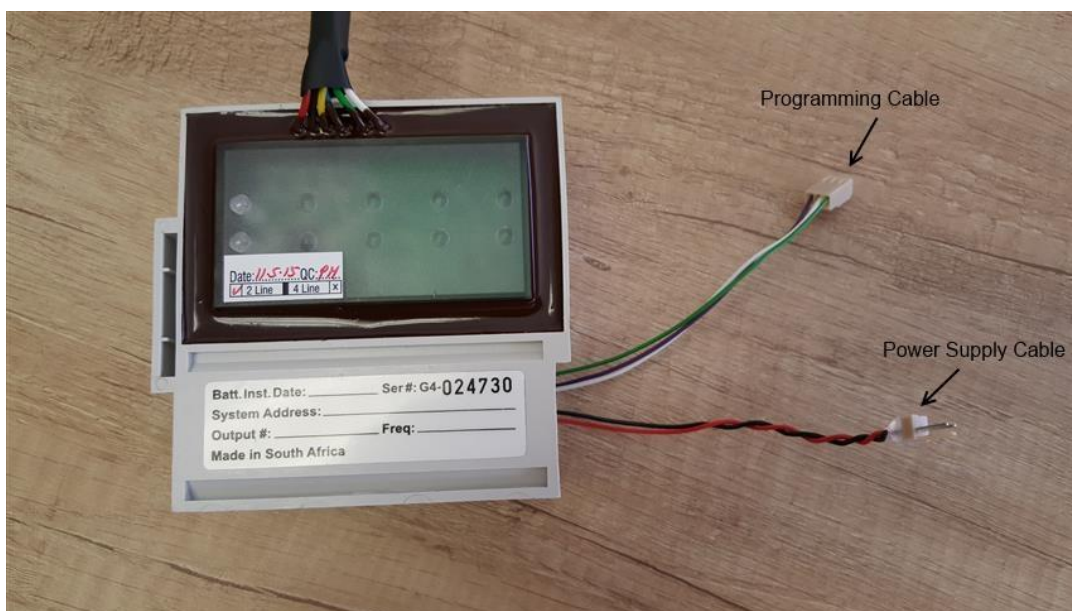

Figure 2
- Referring to Figure 2 above, extract the battery, battery cable and the programming cable out of the receiver modules battery compartment.